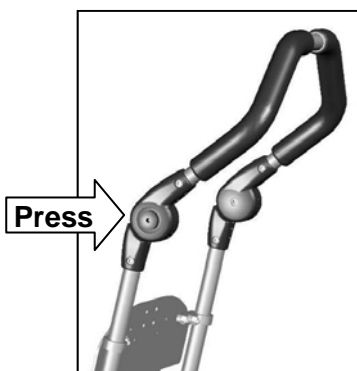

Figure 21: Handlebar Angle Adjustment
1. Press the buttons on the black ratchets simultaneously on both sides of the handlebar (**Fig. 21**).